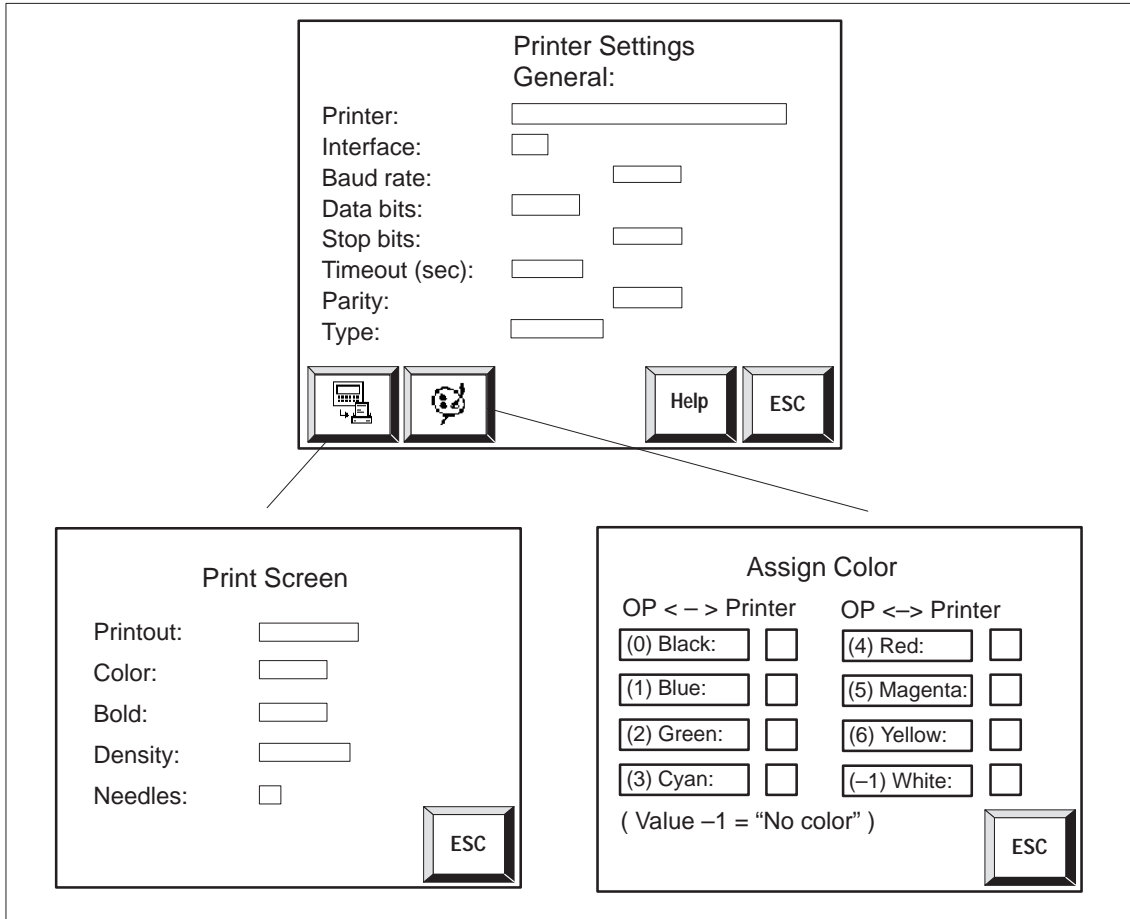

Figure 7-1 Standard screens for printer settings (example TP27-6)
- with the TP27-6 in standard screens *Printer Settings General*, *Print Screen* and *Assign Color* (figure 7-1),